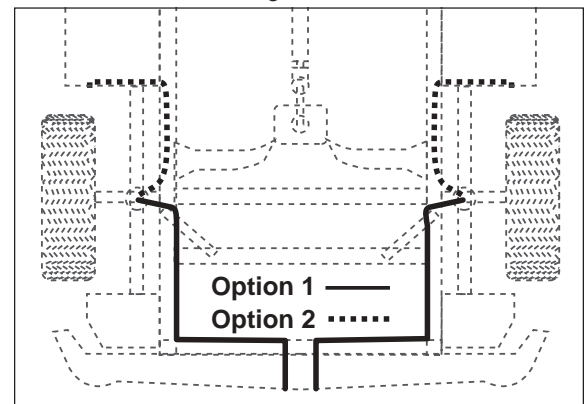

Figure 15
6. Route the air line along the frame to the air fitting on the air spring (Figure 15). Keep at least 6" of clearance between the air line and heat sources, such as the exhaust pipes, muffler, or catalytic converter. Avoid sharp bends and edges. Use the plastic tie straps (BB) to secure the air line to fixed, non-moving points along the chassis. Be sure that the tie straps are tight, but do not pinch the air line. Leave at least 2" of slack to allow for any movement that might pull on the air line.